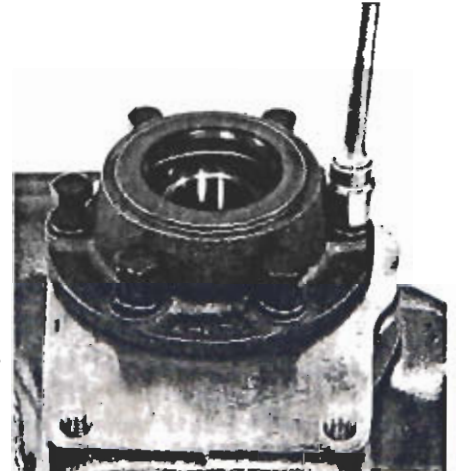

Figure 4 Assemble bearing retainer
**STEP 4** Press the annular bearing (8) and oil seal (6) to bottom of their respective bore in bearing retainer. Assemble the gasket, bearing retainer, and six 7/16-14 x 1-1/4 hex head bolts to rear face of case, figure 4.